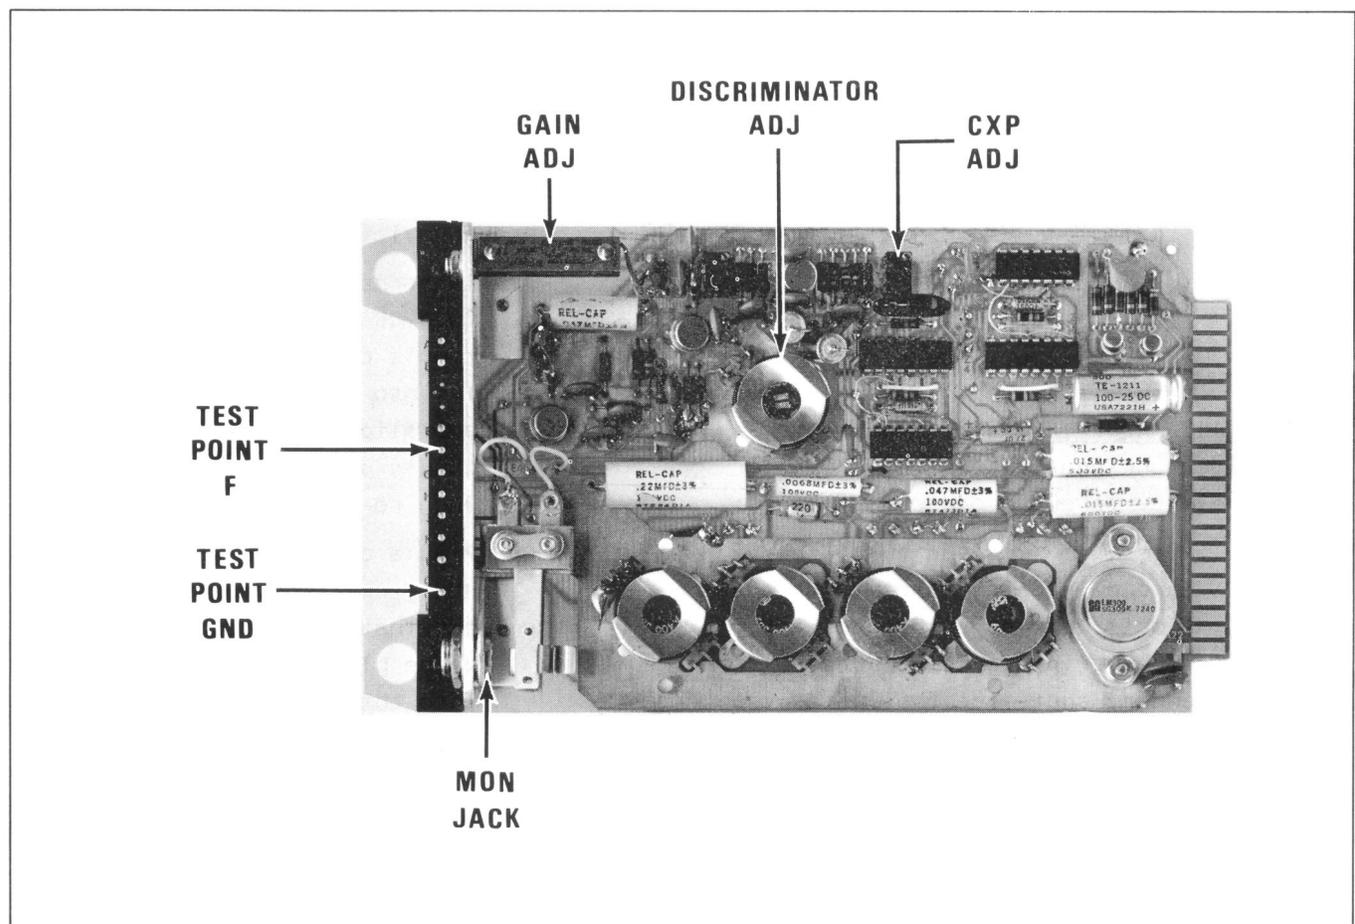

Figure 32—Card 001477—Component Arrangement
4. Using a nonmetallic adjustment tool, carefully adjust the DISCRIMINATOR ADJ slug (Figure 32) for a minimum reading, typically 0.1 VDC.
6. With the screwdriver, adjust the CXP ADJ trimpot (Figure 32) until the ohmmeter pointer deflects up-scale. This is the carrier presence threshold.